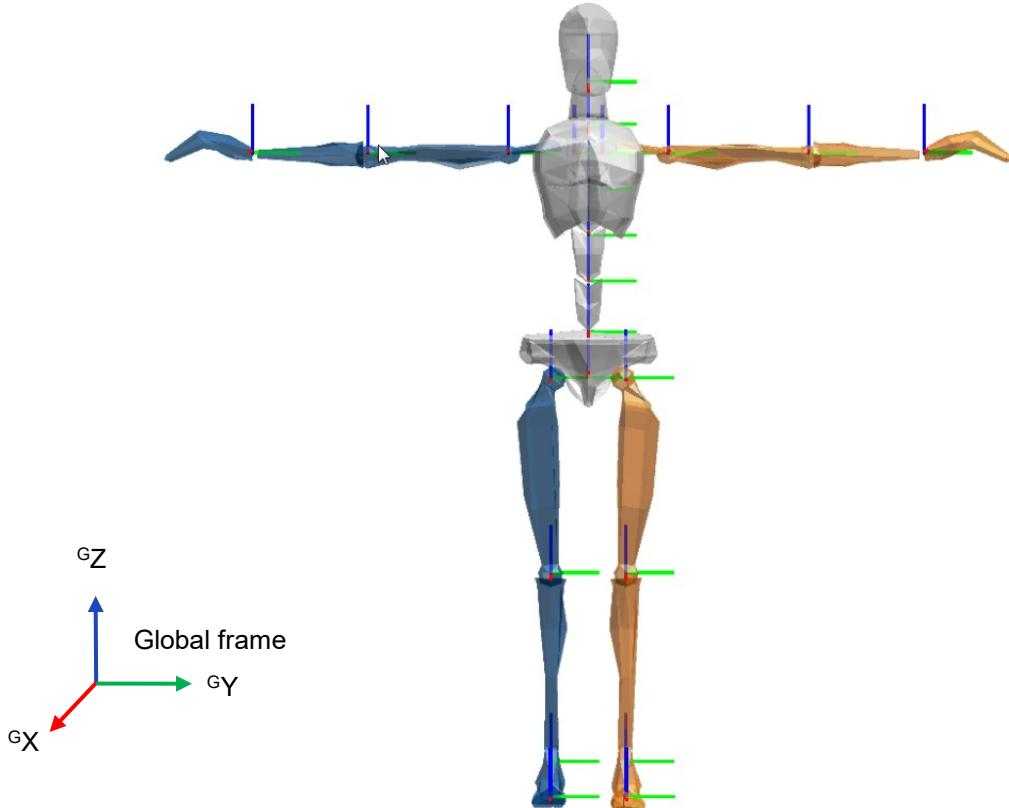

Figure 60: Segment coordinate system at each segment origin, as is used in MVN. Legend: x: red, y: green, z: blue
The axes of each body frame (B) are aligned with this Global reference frame (G) when the subject is standing in the T-pose as shown in Figure 60.
The section <segments> defines all positions (pos_b) of connecting joints (prefixed with a “j”) and anatomical landmarks (prefixed with a “p”) with respect to origin of that segment (in body frame *B*). The body frame (*B*) of this list of points is defined by Figure 60.